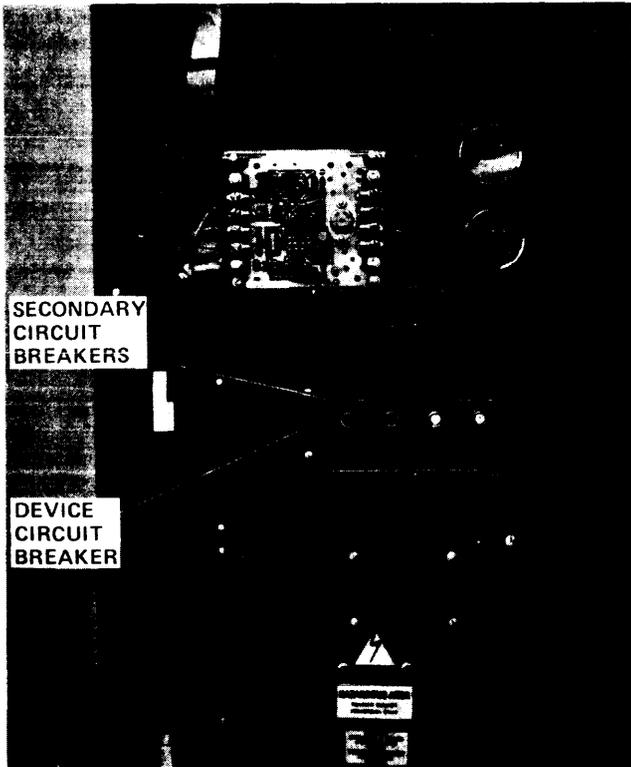
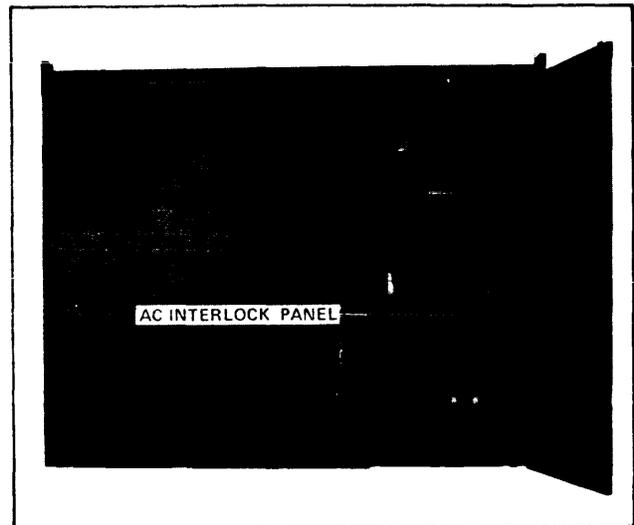

Figure C-5
Figure C-6
The BREAKER indicator illuminates (yellow) if one of the circuit breakers on the ac interlock panel is open (Figures C-5 and C-6). The card reader powers down automatically if a circuit breaker opens after the unit has been powered up. To restart, ensure that all the breakers are switched on, and then power up the device.
1. Switch on the device main ac circuit breaker (Figure C-5) located on the ac interlock panel at the rear of the device (Figure C-6). Ensure that the secondary circuit breakers (Figure C-5) are also on. AC PRESENT on the main status panel will illuminate.
If the card reader is in the ready state, press STOP to put it into the standby state. (Otherwise erroneous data may be transferred.) When the device is in the standby state, press the POWER OFF push button and then switch off the device main circuit breaker on the ac interlock panel (Figure C-5).